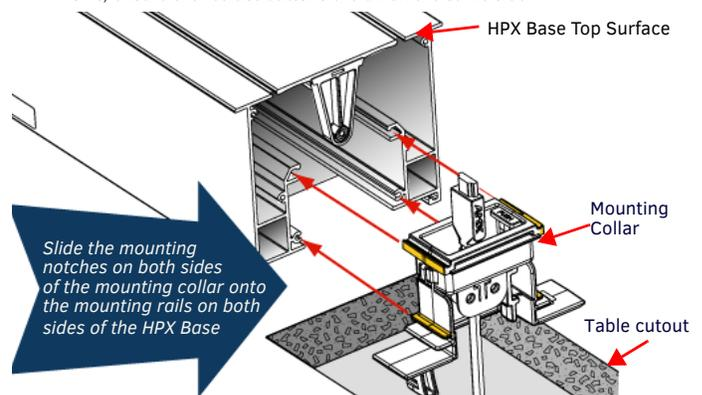

FIG. 5 RETRACTABLE CABLE MODULE - MOUNTING INTO AN HPX BASE ASSEMBLY
8. Feed the mounting collar up through the table cutout to reach the HPX base assembly. Align the mounting notches on the mounting collar with the mounting rails on the HPX base assembly (FIG. 5).